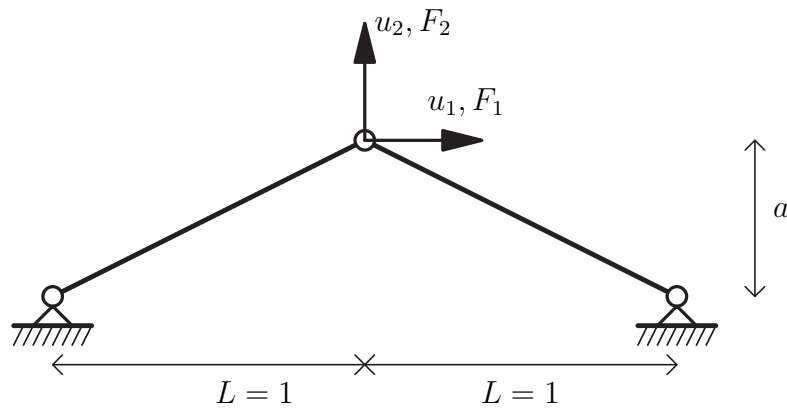

Figure 3: Shallow truss
2. **Potential energy for a shallow truss structure** The potential energy for the shallow truss structure shown in Figure 3 is given as,
2. Verify that the results of the paper are correct by reproducing Figure 3 in the paper. [Note: the value of k is not needed. Simply plot Π/k . This is sufficient to understand the behavior of the system.]